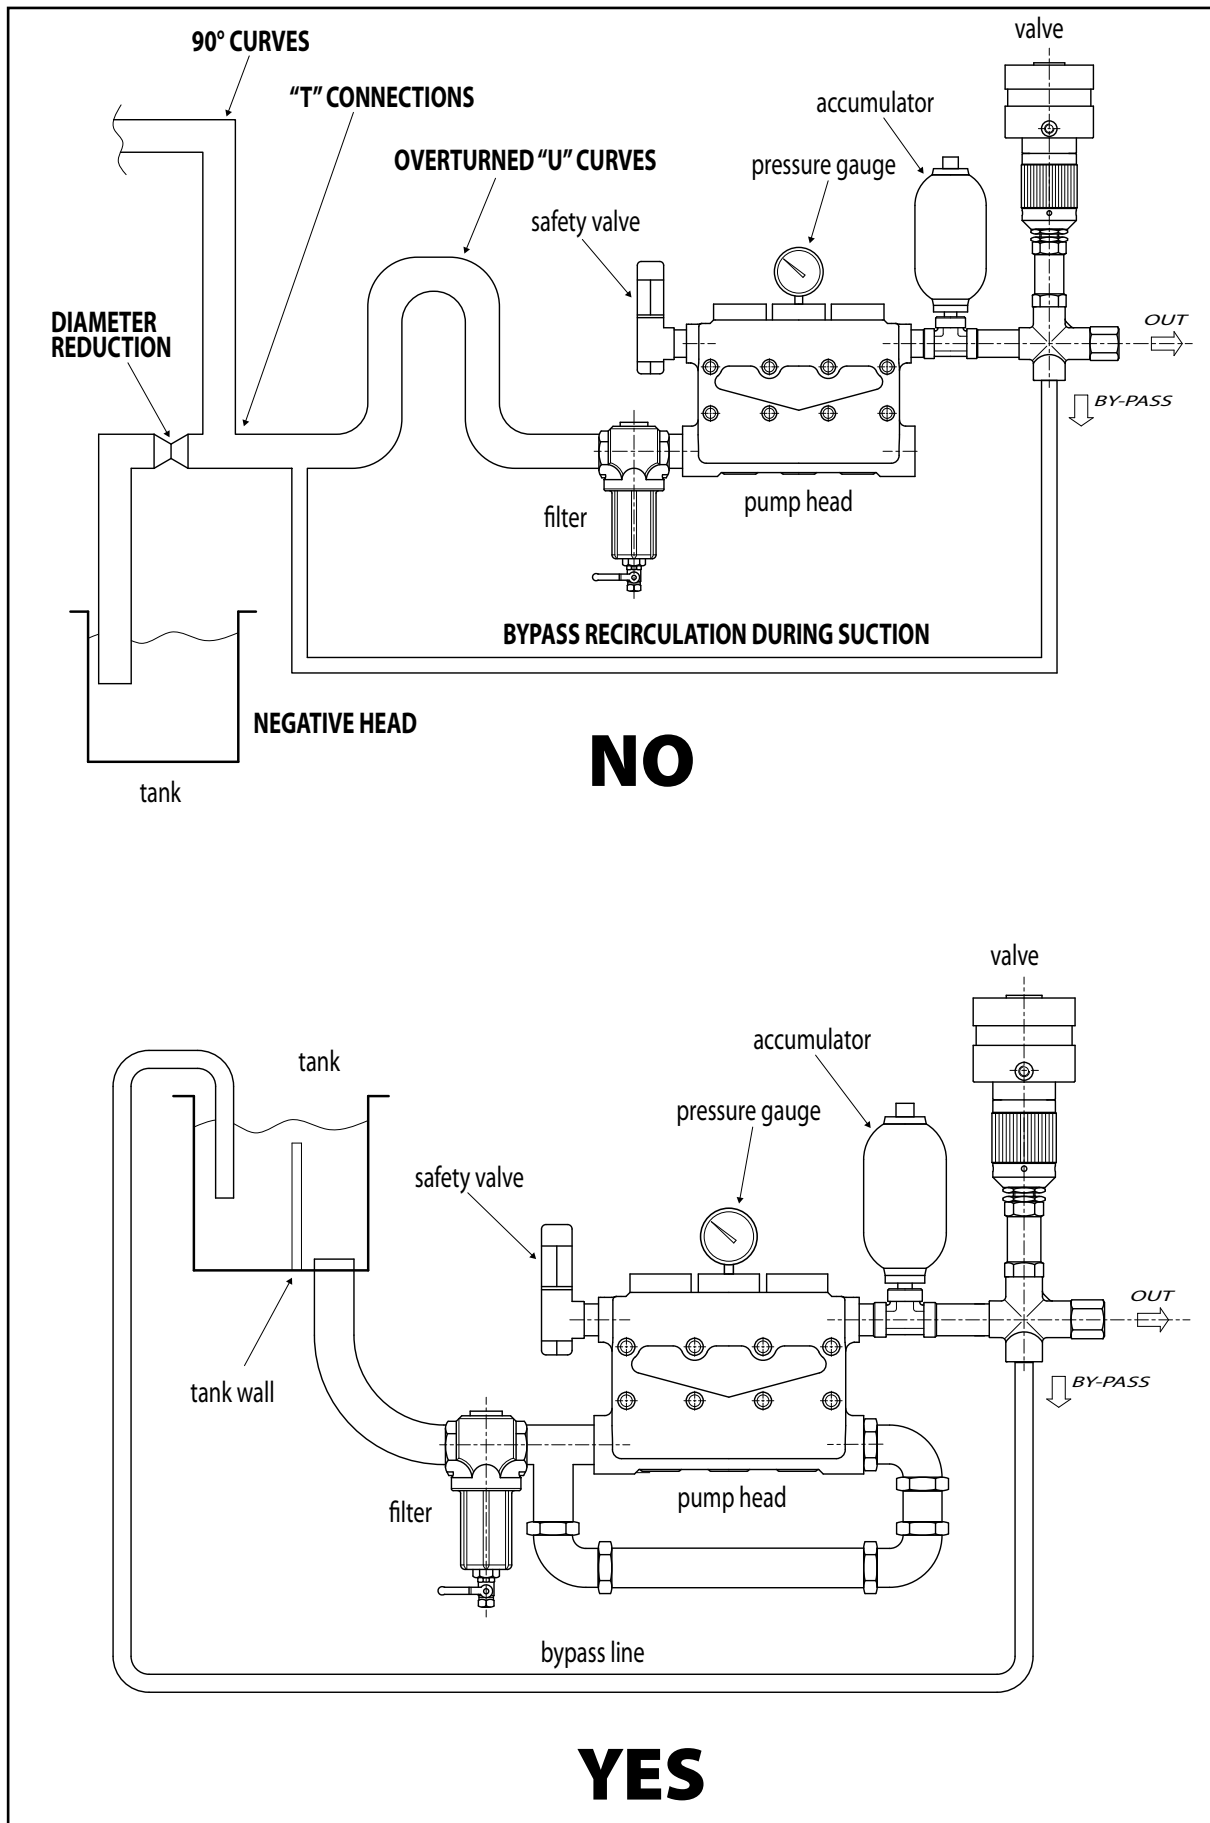

Fig. 2
For the hydraulic suction, delivery and bypass connections, refer to Fig. 2, which represents a generic diagram of a possible pump installation.
- During pump suction, avoid blockages, counterslopes and overturned U curves. Make sure the system is such as to prevent emptying the suction pipes when the pump is stopped (also see Fig. 2).